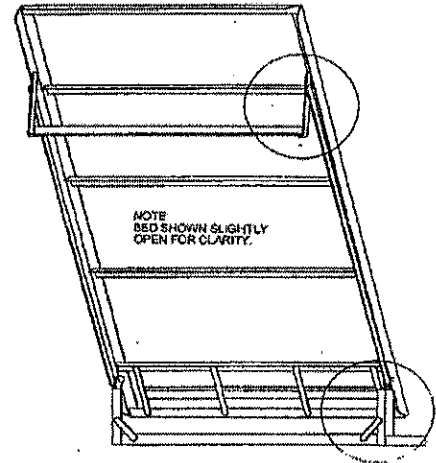
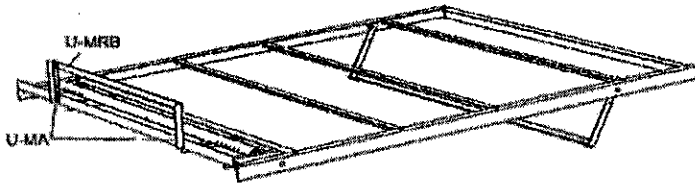
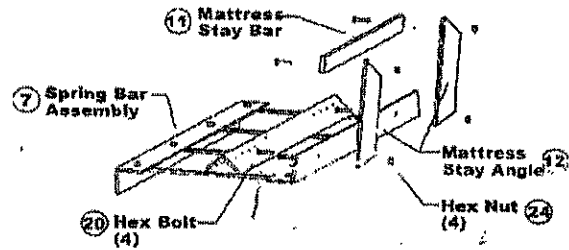

Figure 9. Illustration of bed frame assembly attached to base angle floor base assembly.
Figure 15. Illustration depicting mattress stay angles and mattress stay bar attaching to spring bar assembly (weldment).
Figure 16. Illustration depicting mattress stay angles and mattress stay bar attaching to spring bar assembly.
1. Turn bed frame assembly into vertical position and place onto yoke assembly, as shown in Figure 9.
2. Attach the mattress stay angles and mattress stay bar to the spring bar assembly (weldment). Refer to Figure 15 for a view of the assembled mattress stay attached to the frame, and to Figure 16, which illustrates positioning of components. Attach the two mattress arms to the head of the frame and attach the retainer bar to the ends of the mattress arms. Fasten pieces together with $\frac{3}{4}$ " bolts inserted from the side. Refer to Figure 9 for an illustration of assembled bed frame.